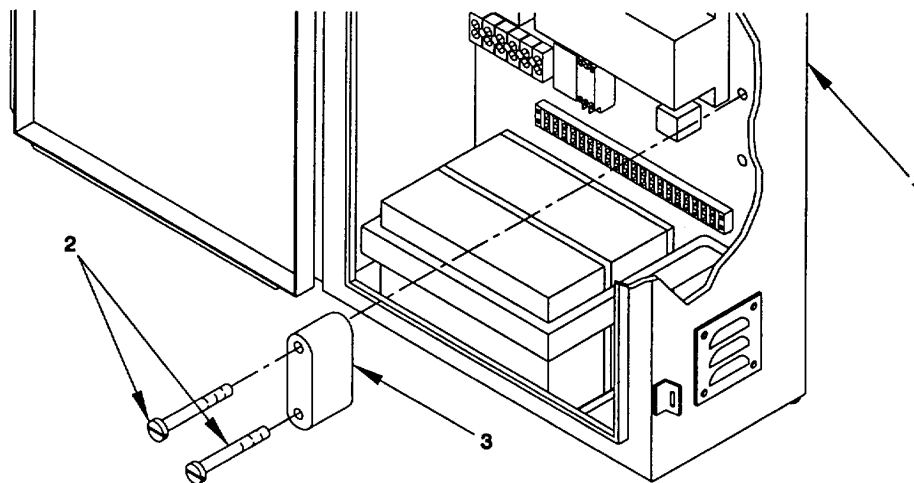

Figure 2-82. Shunt, Pump-Jet Directional/Auxiliary Battery Junction Box "A9", Remove/Install.
- a. *Remove.* (figure 2-82)
- (1) Open door to access interior of junction box (1).
- (2) Disconnect electrical wiring to junction box A9 (1) and tag OUT OF SERVICE.
- (3) Remove two pan head screws (2), freeing ammeter shunt (3).
- b. *Install.* (figure 2-82).
- (1) Position shunt (3) in junction box "A9" and secure with two pan head screws (2).
- (2) Connect electrical wiring to junction box "A9" (1). Refer to Appendix G.
- (3) Close door to junction box (1).
- (1) Locate the friction plate for a connector assembly.
- (2) Adjust tightness of the bolt located at each connector location using two standard wrenches, as shown in (Figure 2-82) One standard wrench is used to hold the nut of the friction plate while the other wrench loosens or tightens the assembly.